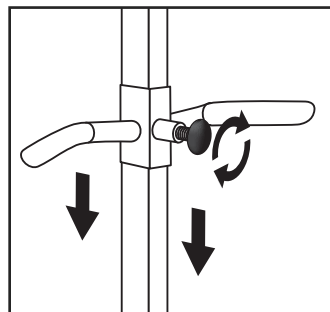

Figure 4
1. Slide Steering Handle over Main Post. (See Figure 4)